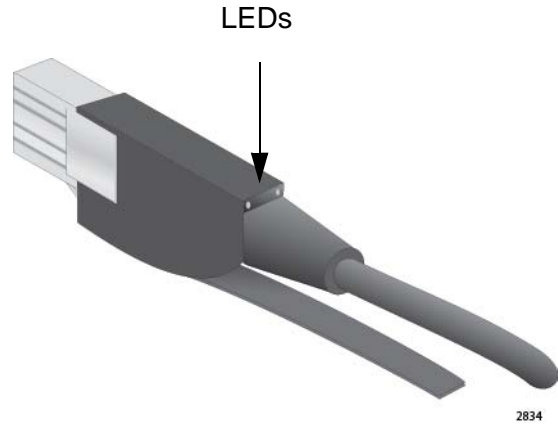

Figure 15. Port LEDs on an RJ Point 5 Cable Connector for the AT-SBx31GT40 Line Card
**LEDs** The LEDs for the ports on the AT-SBx31GT40 Line Card are found on the RJ point 5 cable connectors. The LEDs are shown in Figure 15.